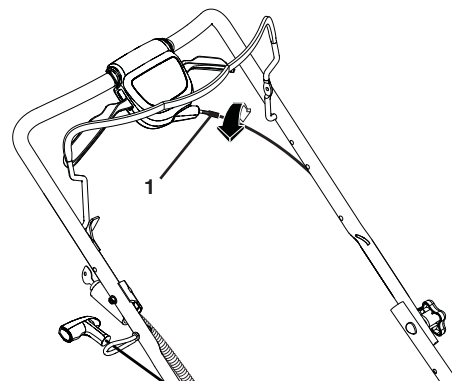

Figure 9
2. Rotate turnbuckle on drive control to increase drive speed (Figure 9).